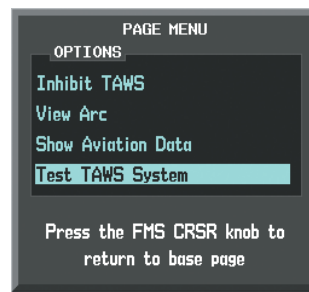

Figure 6-89 TAWS-B Page Menu
- 2) Press the **MENU** Key (Figure 6-89).